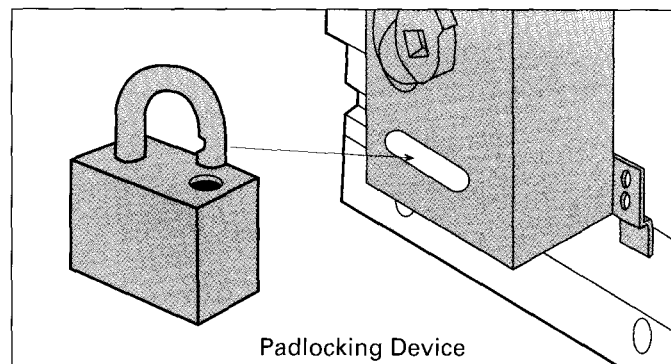

Figure 5
- The breaker operator can be padlocked by inserting padlock through the lower slots (Figure 5).